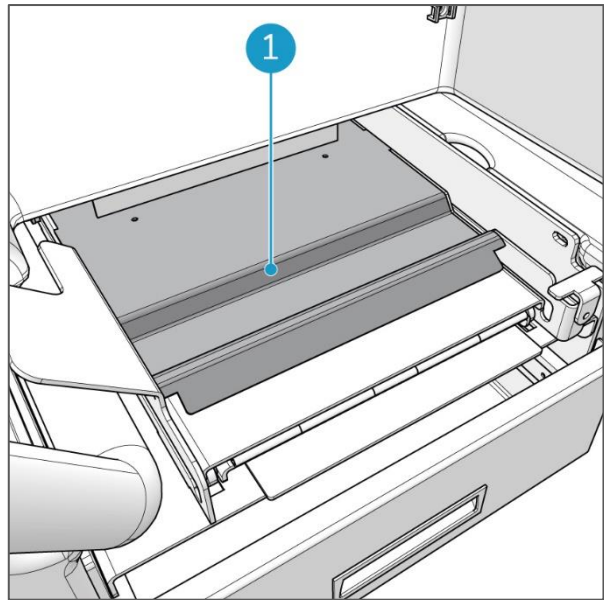

Figure 63
First unload the i-mop lite, see section 7.8.1. Wipe the plateau on which the wheels of the i-mop lite rest (Figure 63, pos 1) with a damp cloth.